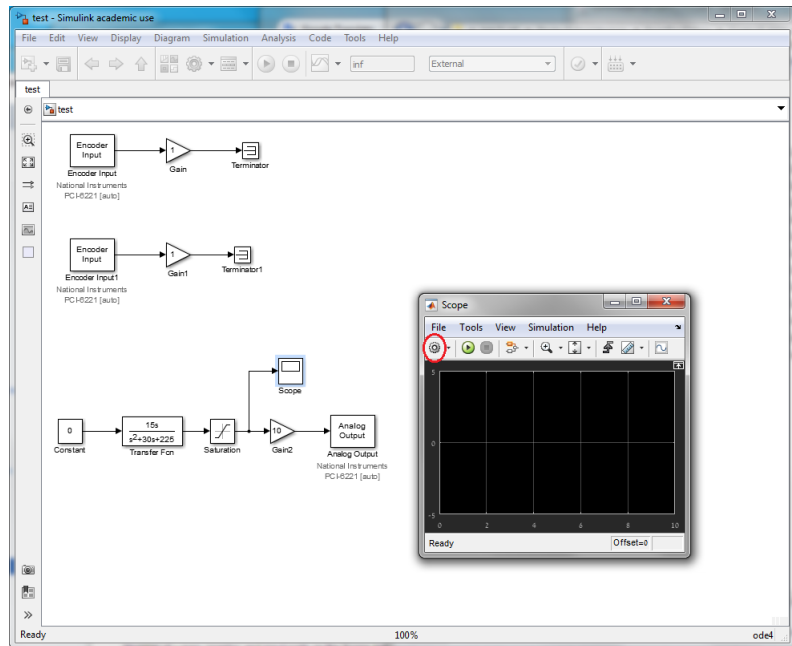

Figure 21: Migrating Scope to Time Scope block.
- press the 'Try Time Scope' button in order to migrate **Scope** to **Time Scope** block which is more effective than **Scope** block (refer to Figure 21 for a screenshot)
- press the 'Configuration Properties...' button (this button is circled in red ellipse in Figure 21)